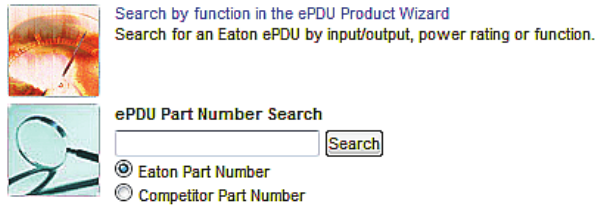

Figure 97. Search Wizard
11. Enter the part number of your ePDU in the Eaton Product Wizards “ePDU Part Number Search” field. Click **Search**. The Search Results page displays (see Figure 97).